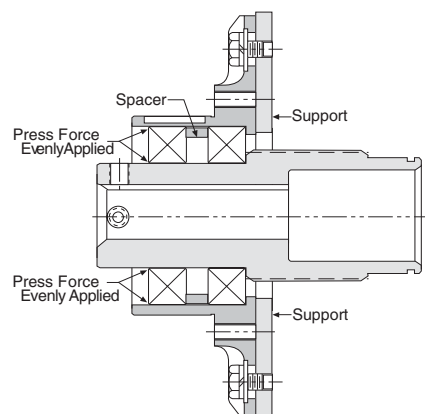

Figure 4
21. Press the outer bearing (Item 4) into place by applying force evenly against the bearing outer and inner races simultaneously while supporting the armature face. Continue pressing until the outer race firmly locates against the spacer. See Figure 4.